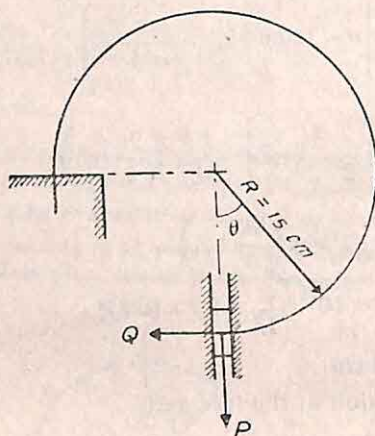

Fig. 46
25. Fig. 46 shows a steel rod 1 cm diameter with one end firmly fixed into a horizontal table. The remainder of the rod is bent into the form of three-quarters of a circle and the free end of the rod is constrained by guides to move vertically. If the mean radius to which the rod is bent is 15 cm, determine the vertical deflection of the free end for a load of 10 kg gradually applied there.  $E = 2 \times 10^6 \text{ kg/cm}^2$ . (Lond. Univ.)